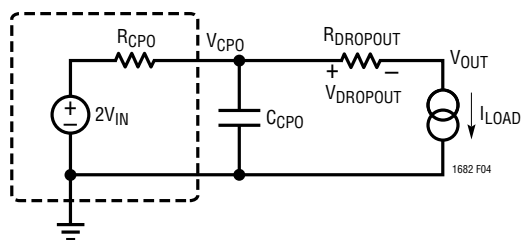

Figure 4. Equivalent Circuit
**Note 3:** Dropout voltage is the minimum input/output voltage required to maintain regulation at the specified output current. In dropout the output voltage will be equal to:  $V_{\text{CPO}} - V_{\text{DROPOUT}}$  (see Figure 4).
The maximum available output voltage and current can be calculated based on the open circuit CPO voltage, the dropout voltage of the LDO and the effective output resistance of the charge pump. The open circuit CPO voltage is approximately  $2(V_{IN})$  (see Figure 4).